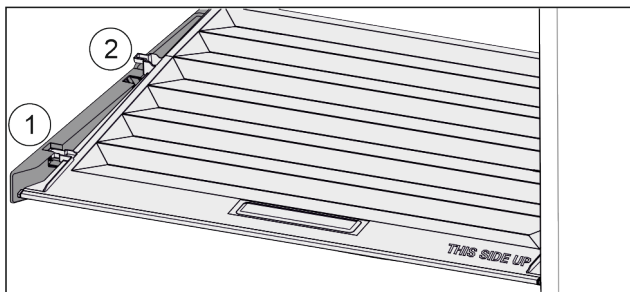

Fig. 117
- ▶ Pull the lid up at the front in the retaining parts to the opening Fig. 117 (1).
- ▶ Lift from the back and pull it up and out Fig. 117 (2).